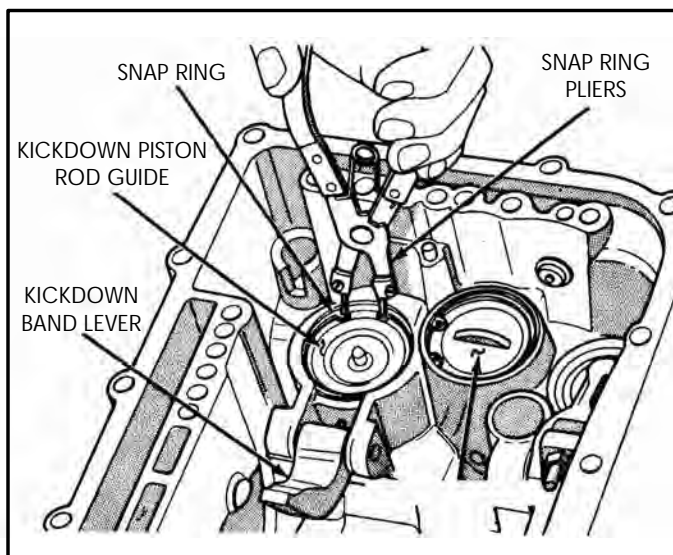

Figure 212
7. Compress the piston rod guide over piston rod and install snap ring, as shown in Figure 212.